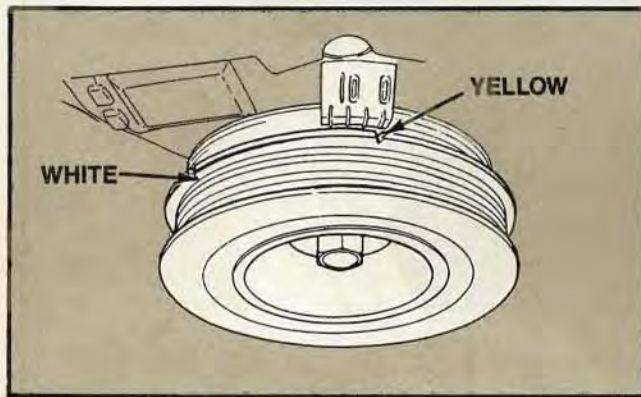

Figure 134. Aligning the Yellow Timing Mark with Zero
- Slowly rotate the crankshaft approximately two revolutions clockwise (never more than two) and align the the yellow mark of the crankshaft pulley (not the white one), with the zero mark on the No. 1 timing belt cover (Fig. 134). Do not turn the crankshaft more than two revolutions.